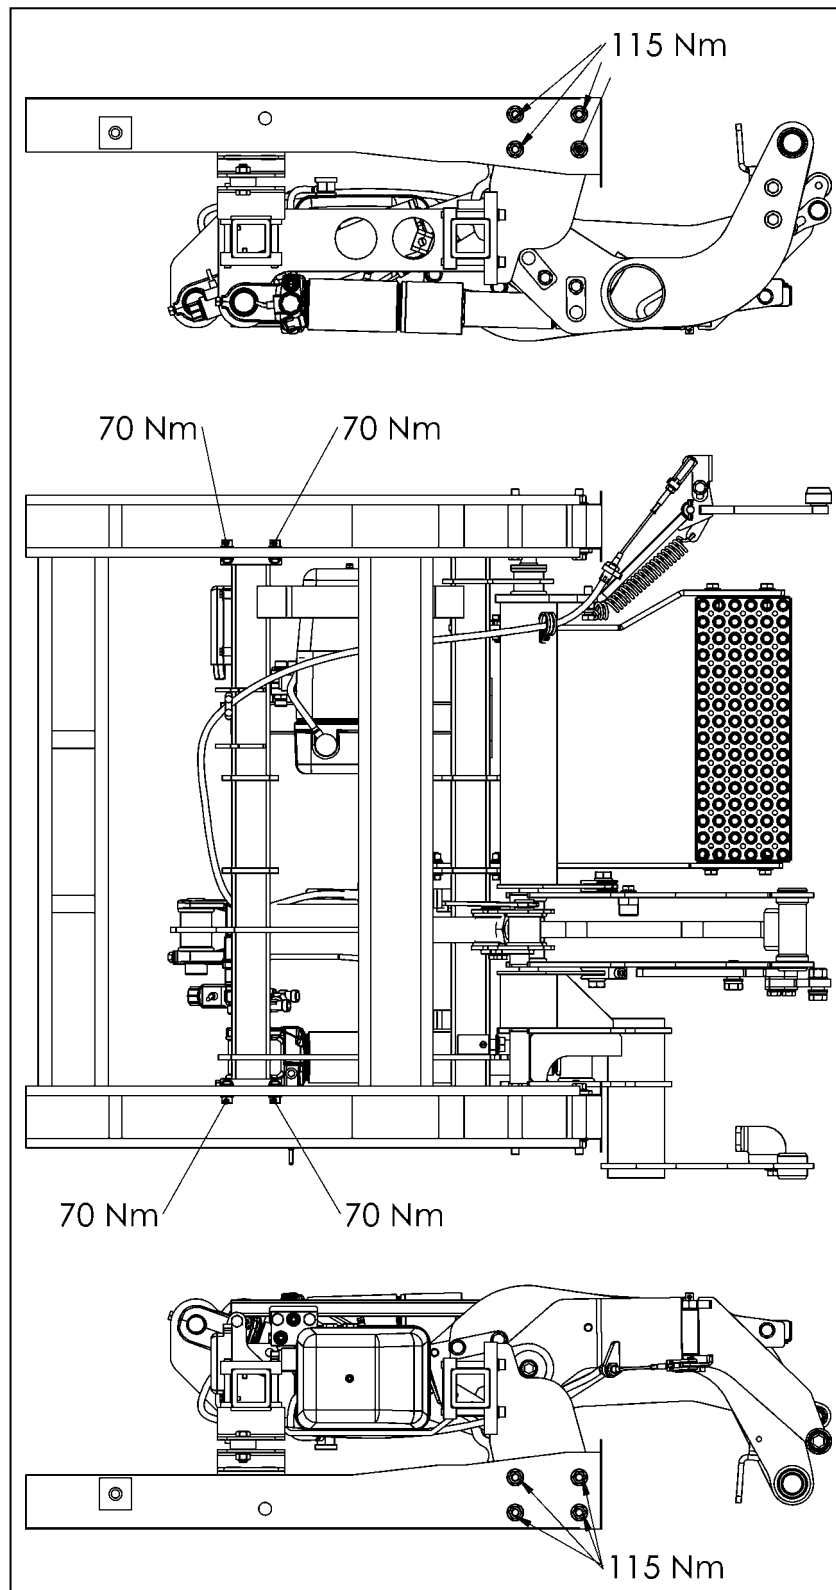

Figure 33
- Secure the lifting gear (with adapters) to the vehicle and tighten to a torque of 115 Nm in the rear and 70 Nm in front (see Fig. 33).